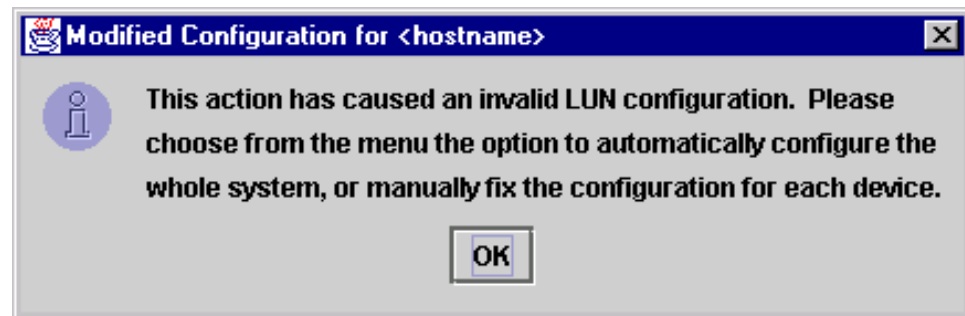

Figure 97. Modified Configuration Error dialog window
- Click **Set Unconfigured** to set this path as not visible to the operating system. The path is not used in failover conditions. If setting the path has caused the LUNs associated with this device to have an invalid configuration, the error message shown in Figure 97 displays. This problem is usually the result of changing the configuration state of a device. You must modify the LUN configuration for this device before you can save or apply the configuration.